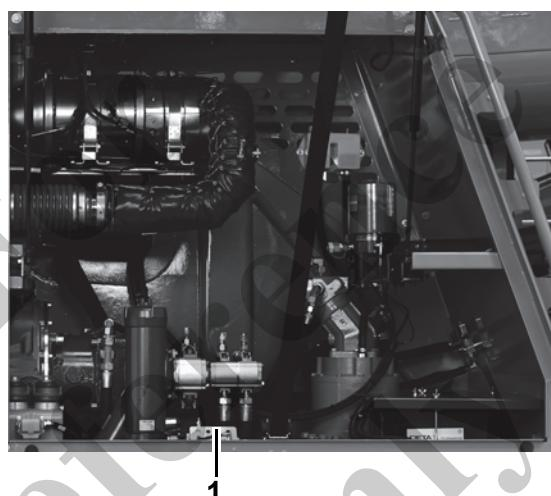

Fig. 32 Position of the slewing ring lubricating nipple
3	Lubricate lubricating nipples (1) in Fig. 32 until grease emerges at the sealing lips.